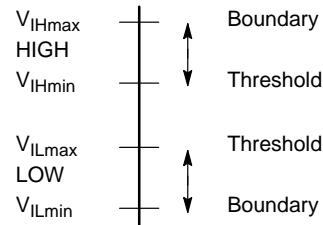

Figure 17. Single-Ended Input Logic Levels
**Single-Ended Input Voltage Range** – Single-ended input HIGH and LOW levels have a boundary and a threshold as shown in Figure 17. Once an input crosses a logic threshold, the logic state is guaranteed to change to the new state.